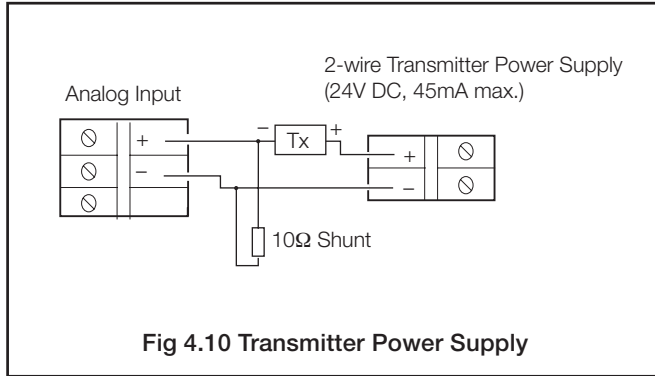

Fig 4.10 Transmitter Power Supply
4.5.6 Transmitter Power Supply Connections – Fig. 4.10